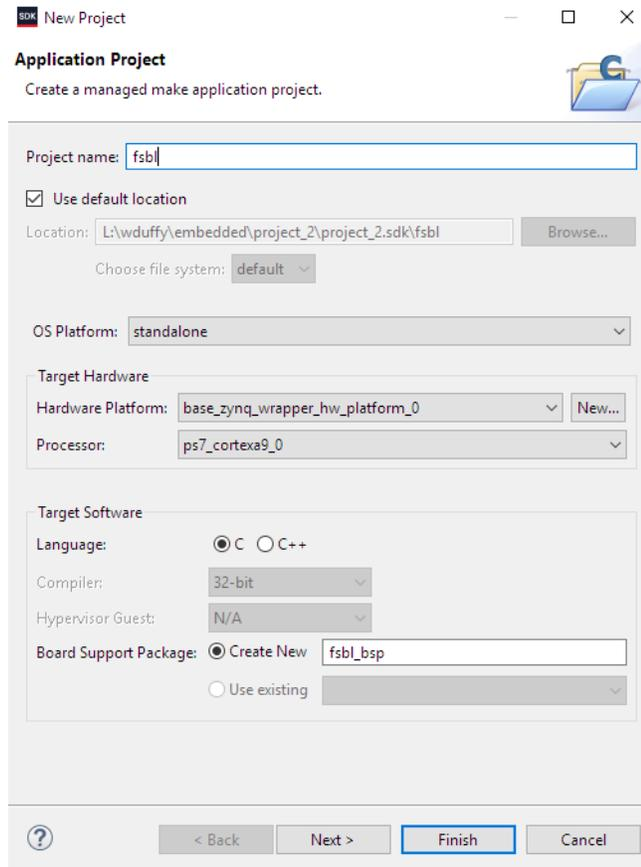

Figure 14: Creating the First Stage Boot Loader (FSBL) Software Application
5. Create the FSBL project. Select **File > New > Application Project**. The **Application Project** dialog box is displayed. Enter **fsbl** as the project name. Select the **Create New Board Support Package** option. Click **Next**. The **New Project Templates** dialog box is displayed. Figure 14 shows the creation of the FSBL project. Select **Zynq FSBL** and click **Finish**.